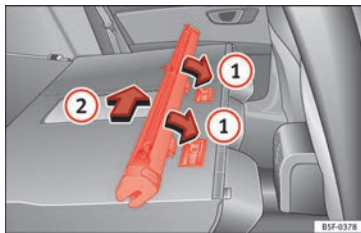

Fig. 173 Assembling the net partition in the rear seat backrests.
- Place the net casing in the rail slots in the direction of the arrows »» Fig. 173 ①.
- Push the casing towards the left side of the vehicle in the direction of arrow »» Fig. 173 ② and as far as it will go.
» Fig. 173 ②.
» Fig. 173 ①.